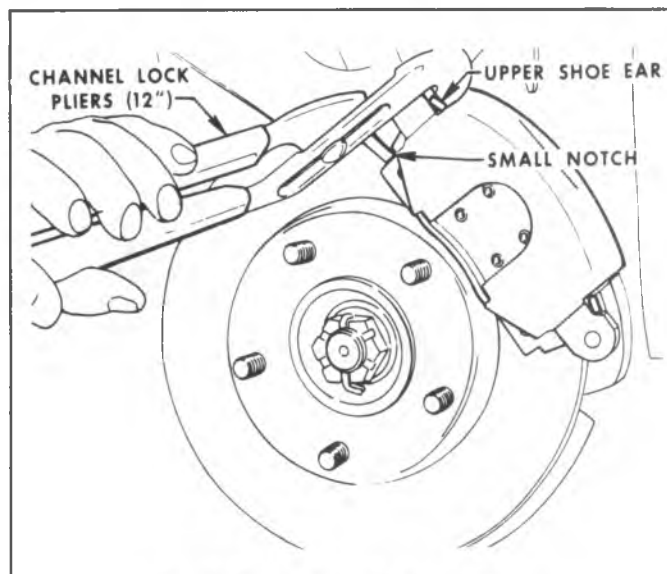

Fig. 5-30--Clinching Outboard Shoe
9. Clinch upper ears of outboard shoe by positioning channel lock pliers with one jaw on top of upper ear and one jaw in notch on bottom of shoe opposite upper ear (fig. 5-30).